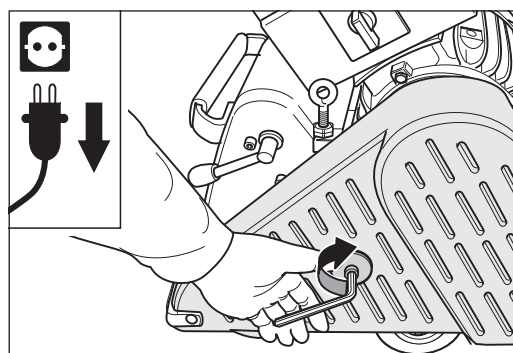

Fig. 63 Close the belt guard.
- 8 Close the belt guard (Fig. 63).